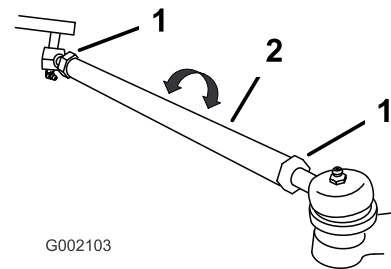

Figure 33
- If the measurement does not fall within 0-1/4 inch (0-6 mm), loosen the jam nuts at both ends of the tie rods (Figure 33).